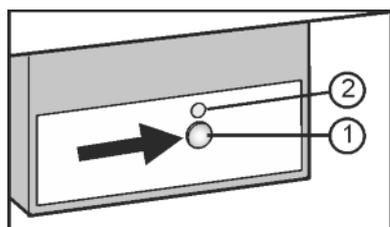

Fig. 18
- ▶ Press the On/Off button Fig. 18 (1) so that the LED Fig. 18 (2) shines.